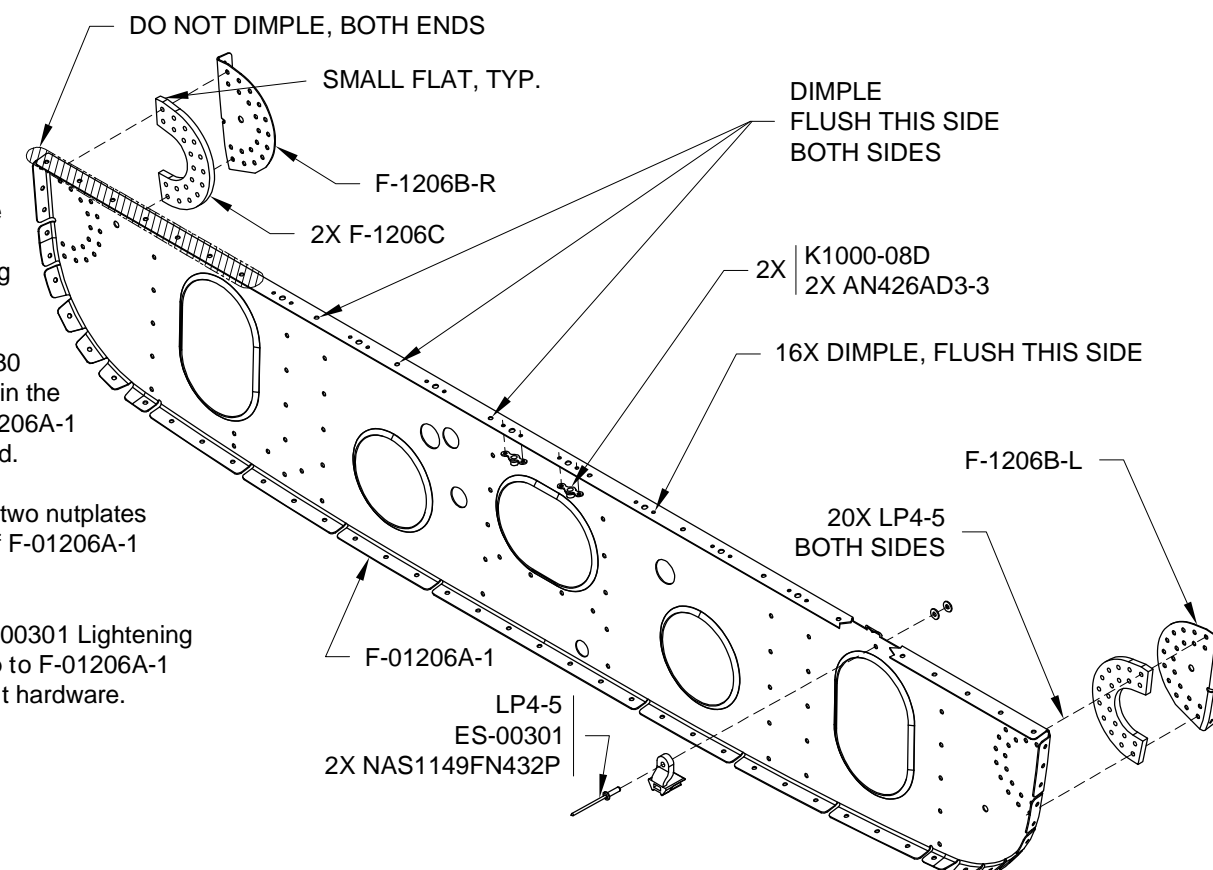

FIGURE 4: F-01206A-1 BULKHEAD ASSEMBLY
Step 8: File the rear stub spar rounded ends of both wings to closely fit the recessed machined curve of the F-1206C. See Figure 4. The small flat on F-1206C locates the top of the part.
F-1206B-L & -R and F-1206C to F-01206A-1 using the rivets called out in Figure 4. Insert the rivets in all the holes before setting any of them.